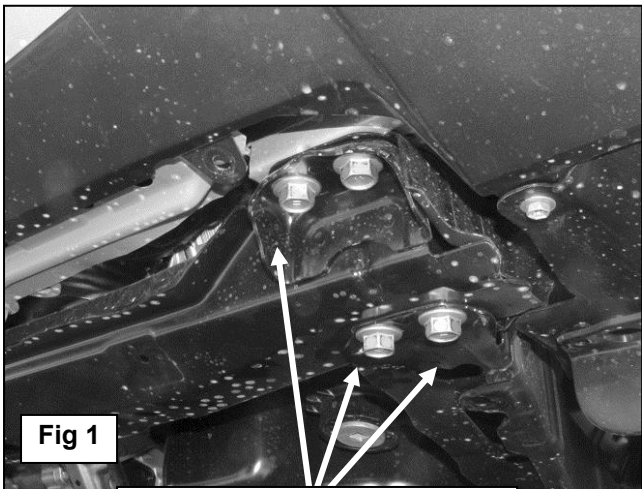

Fig 1
- Locate the (4) factory hex bolts securing each end of the crossmember to the frame, (Figure 1). **NOTE:** Only install one Mounting Bracket at a time and only remove the (3) factory hex bolts required for Bracket installation, (Figure 1). Select the driver side Frame Mounting Bracket, (Figure 2A). Bolt the Bracket in position using the factory hex bolts, (Figure 2B). Snug the hardware but do not tighten at this time. Repeat this **Step** for the passenger side Mounting Bracket installation.